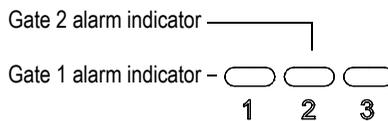

Figure 3-12 Gate 1 and gate 2 alarm indicator lights
- One of two alarm indicators (LEDs) is illuminated on the instrument front panel (see Figure 3-12 on page 61).